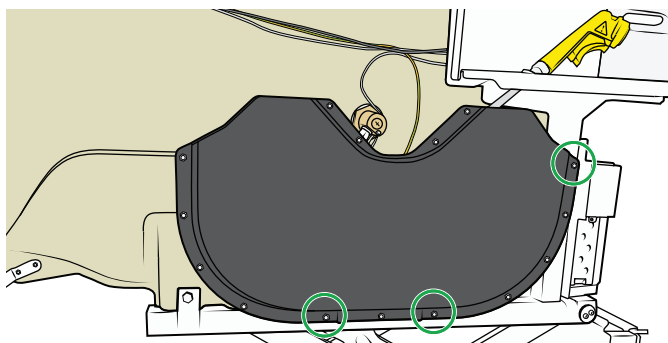

Figure 91
31. Attach the Hose guide with the three screws. See Figure 91.